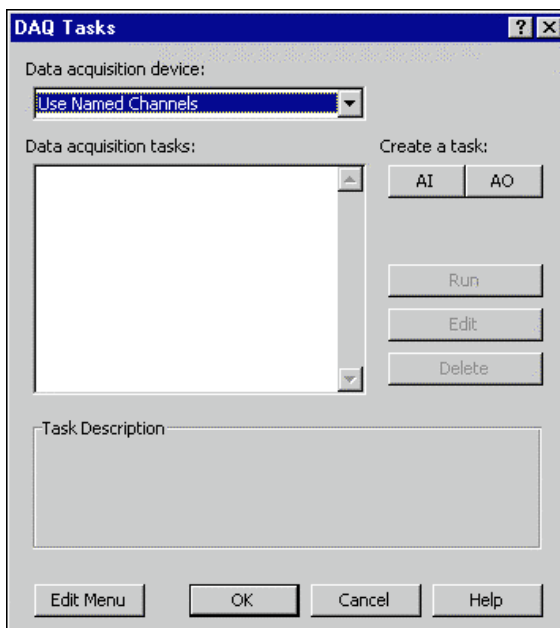

Figure 2-1. DAQ Tasks Dialog Box
2. Select **DAQ»Configure DAQ Tasks** to display the DAQ Tasks dialog box, as shown in Figure 2-1.